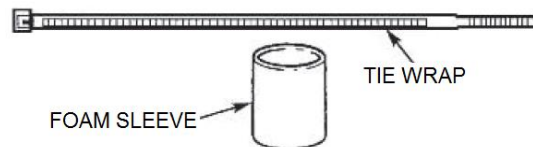

Figure 3
3. Tighten the tie wrap around the pump as it sits in the bracket. It is preferred to place the tie wrap close to the bottom of the pump in order to successfully keep the pump secure in the bracket (Fig. 3).